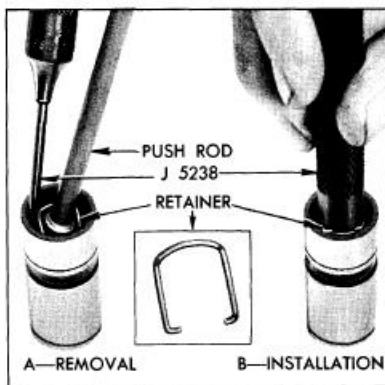

Figure 2-19—Removing and Installing Plunger Retainer
1. Disassemble each valve lifter by using a push rod to hold down the push rod seat while removing the plunger retainer from the lifter body, using Retainer Remover J-5238. See Figure 2-19, View A. Remove push rod seat and plunger from lifter body.
1a. If a plunger sticks in lifter body place lifter in large end of Plunger Remover J-4160-A, with plunger inward. While holding lifter with thumb, rap the open end of remover against a block of wood with just enough force to jar the plunger from body. See Figure 2-19.
3. Rinse push rod seat and plunger retainer, place these parts in end of body and depress with handle of Remover J-5238 until retainer engages groove in body. See Figure 2-19.